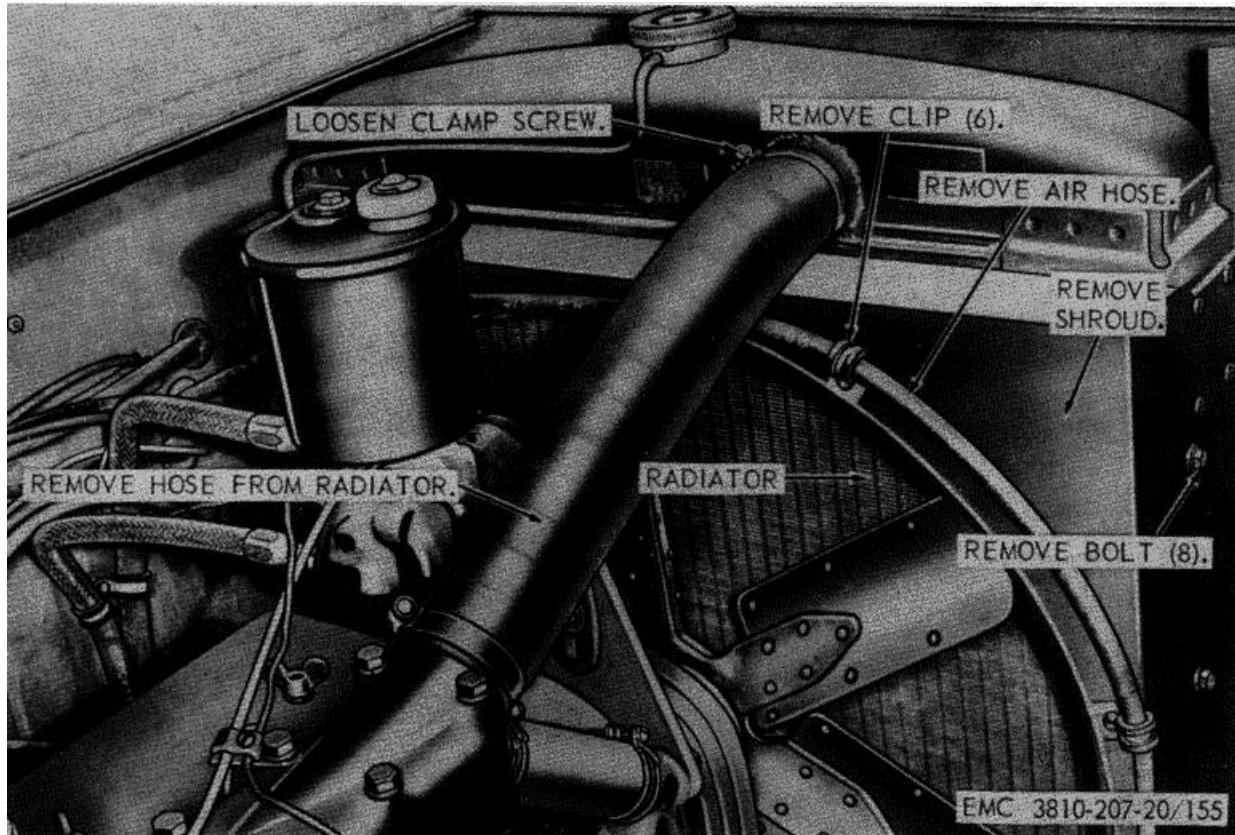

Figure 155. Carrier engine radiator Shroud, removal and installation.
- (1) Drain the cooling system (TM 5-3810-207-10).
- (2) Remove the carrier engine fan (par. 255).
- (3) Remove the carrier engine radiator shroud as instructed on figure 155.
- (1) Install the carrier engine radiator shroud as illustrated on figure 155.
- (2) Install the carrier engine fan (par. 255).
- (3) Fill the cooling system to proper level (TM 5-3810-207-10).